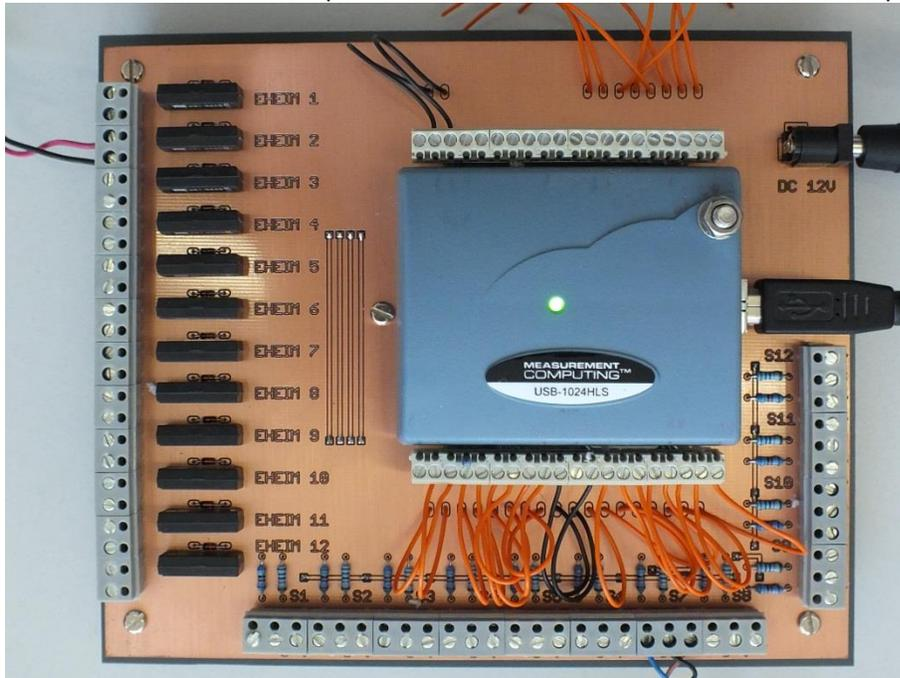

Figure 2: PCB with data acquisition device.
1. Connect the data acquisition device with screws to the PCB (Fig. 2).